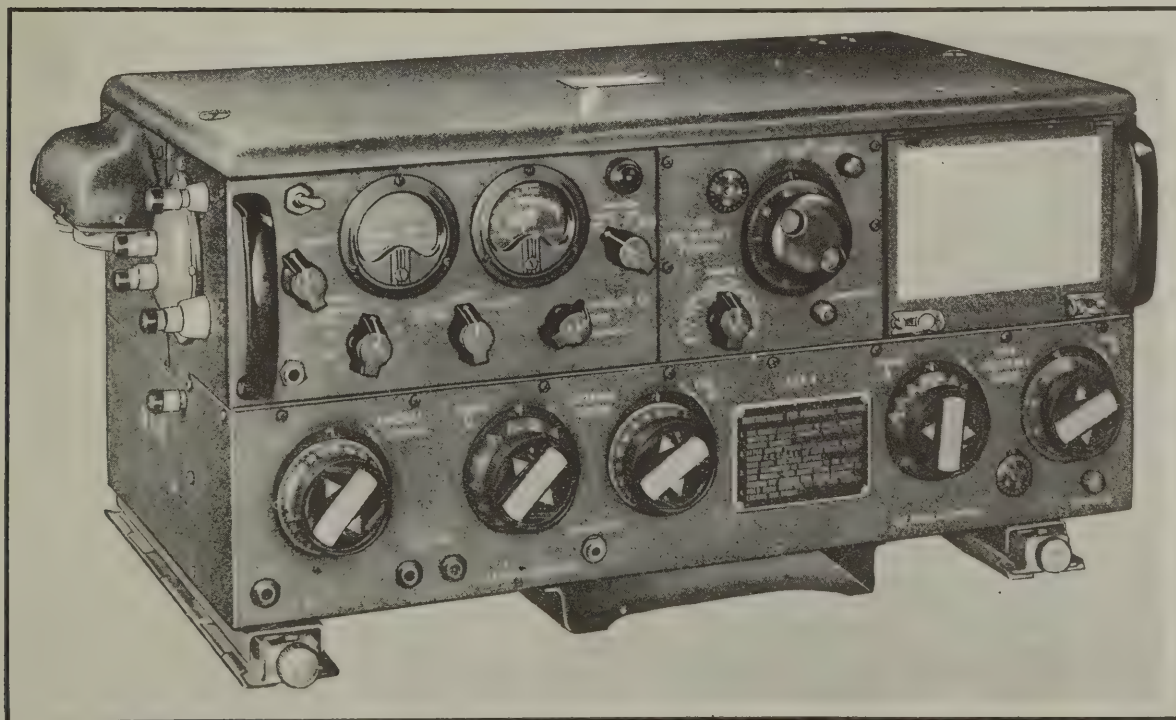

Figure 1-4—Radio Transmitter T-47/ART-13 (Navy Type -52286) with Oscillator 0-16/ART-13 Installed
(3) **RADIO TRANSMITTER T-47/ART-13.** (See Figure 1-4).—These transmitters are identical to those furnished with Navy Model ATC and ATC-1 equipment. Early production was equipped with MCW-CFI unit 8Q-1. 8Q-2 was incorporated during production. Some transmitters already delivered before this unit was incorporated were modified by modification M2. That modification replaced the 8Q-1 with an 8Q-2 and replaced the calibration book to conform to the changed unit. Transmitters with this modification were marked "M2" beside the nameplate. Modification M1 consisted of the addition of an interlock switch which shuts off high voltage from the radio transmitter when the top cover is removed.